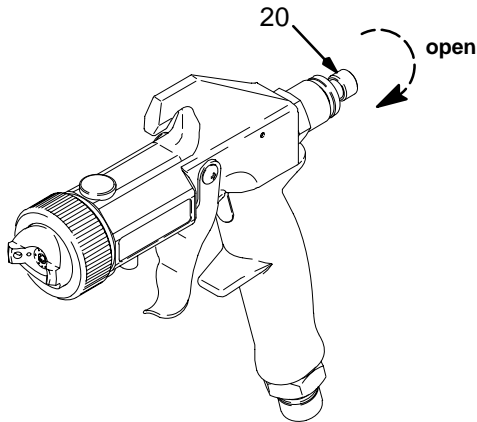

Fig. 6
1. Turn fluid adjustment knob (20) counterclockwise until you cannot feel any restriction of trigger movement. See Fig. 6.